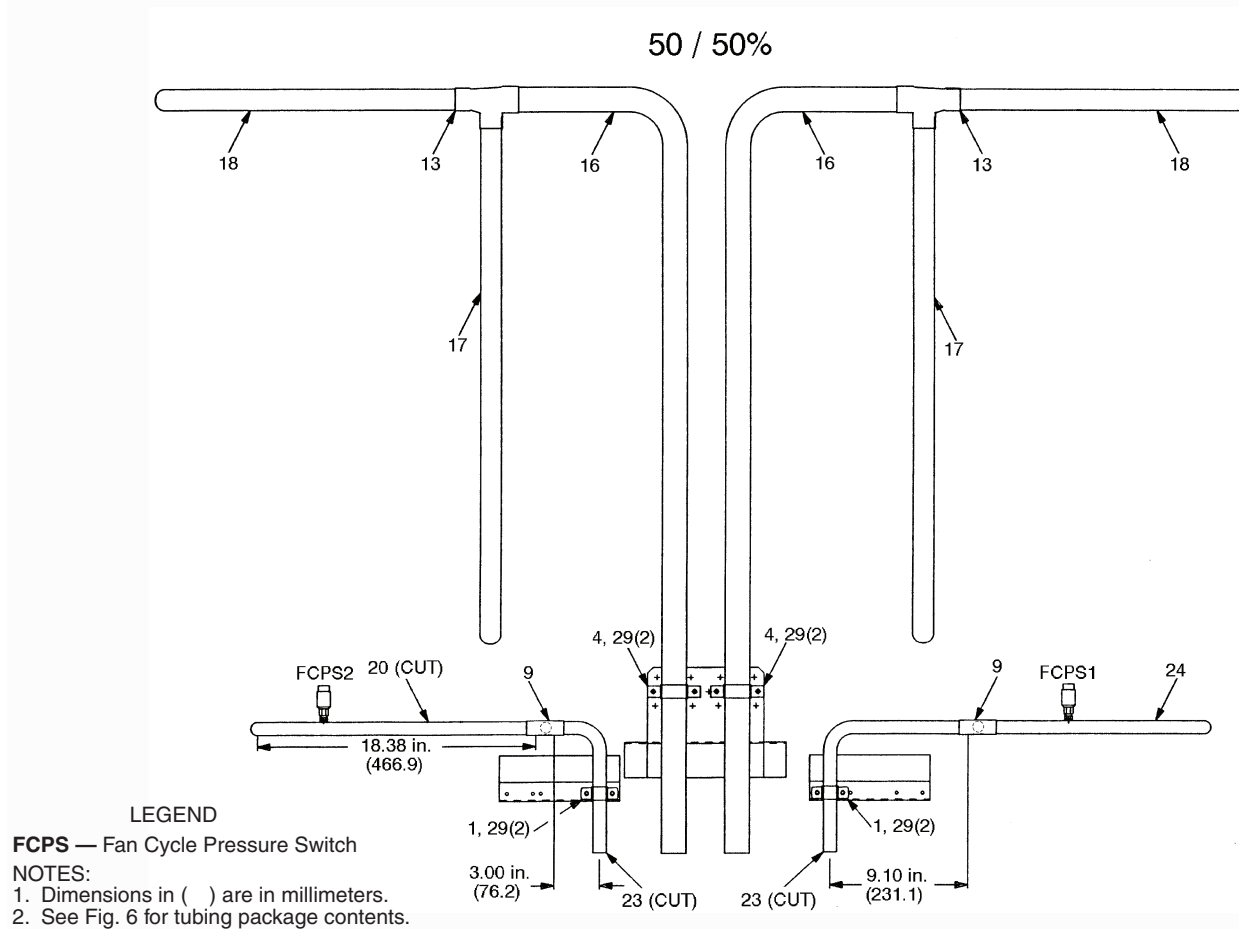

Fig. 24 — 50/50% Coil Circuiting; 09DK084 Units
Install Fan Cycle Pressure Switches and Clamps — Braze 2 valve core bodies (item 6) to designated hole locations on tubes 20 and 24. Insert valve cores (item 7) into valve core bodies by threading into place and tightening to 1.5 to 3 in.-lb (169.5 to 339 mN-m). Install FCPS1 and FCPS2 (item 8) at designated locations on tubes 20 and 24. Cut the $\frac{3}{8}$ -in. field-supplied FCPS conduit to fit between each FCPS location and the junction box on the unit. See Fig. 13 for typical conduit installation. Feed FCPS wires through each conduit and secure at the switch using each conduit connector. See Fig. 15. Secure the conduit at the junction box with $\frac{3}{8}$ -in. field-supplied conduit connectors. Wire FCPS1 and FCPS2 according to Fig. 20. At the location specified in Fig. 24, clamp hot gas line, tube 16, using two $1\frac{5}{8}$ -in. clamps (item 4) and 4 screws provided. Clamp the liquid lines, tubes 23, using two $\frac{7}{8}$ -in. clamps (item 1) and 4 screws provided.